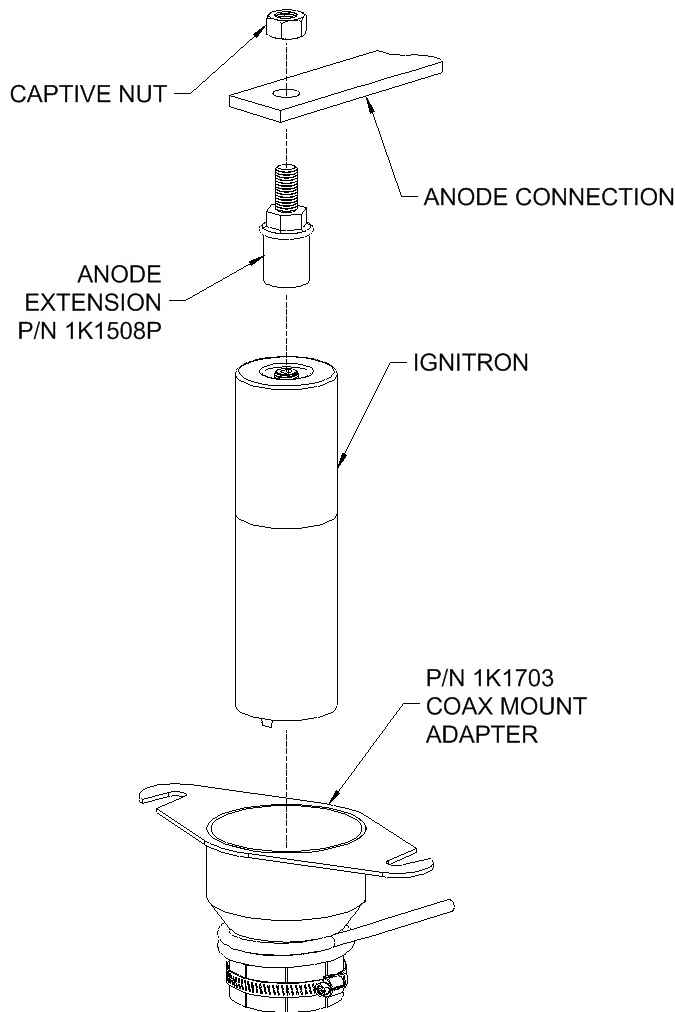

Fig. 1
2. Mount the 1K1703 Coax Mounting Adapter to the chassis of your equipment, See Fig 1.